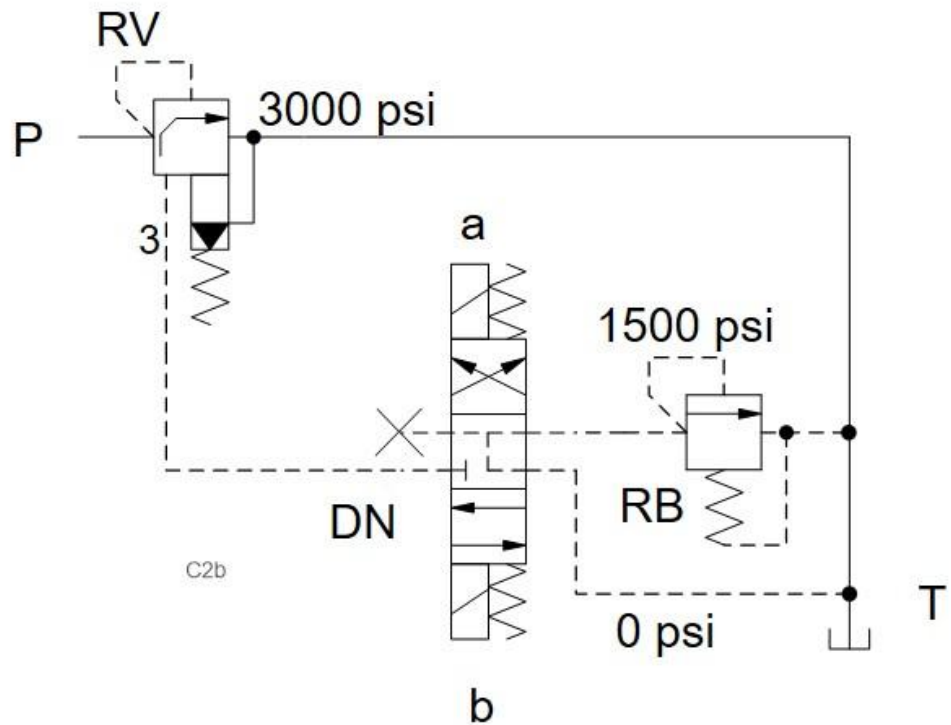

Fig.2
- **Fig. 2** shows a ventable anti-shock relief valve RV*T. A 3/4-way valve DNDC-XYN in the vent line 3 of the RV*T offers the following options: